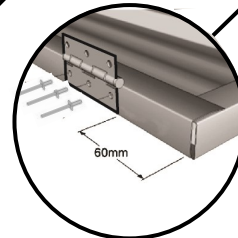

fig.2
- Attach hinges to door side flashing using rivets provided. Ensure hinge is flush with back of door, and 60mm in from each end as per **fig.2**.